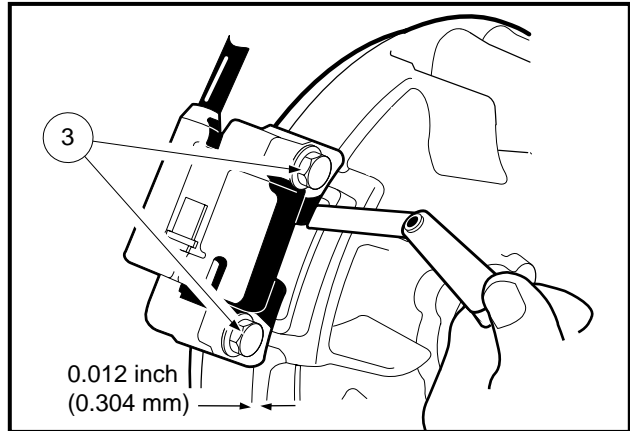

Figure 13-64 Adjust Ignition Coil Air Gap
2. While tightening the two bolts (3), use a bronze feeler gauge to adjust the ignition coil air gap to 0.012 in. (0.304 mm) (Figure 13-64, Page 13-32).